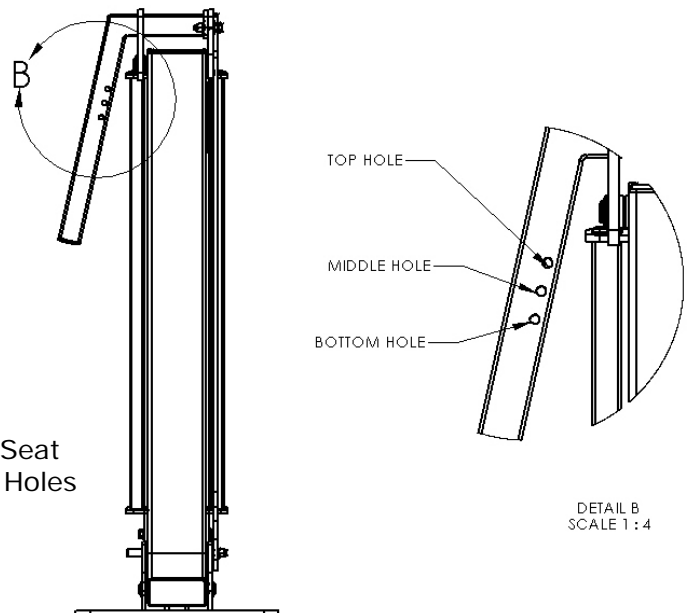
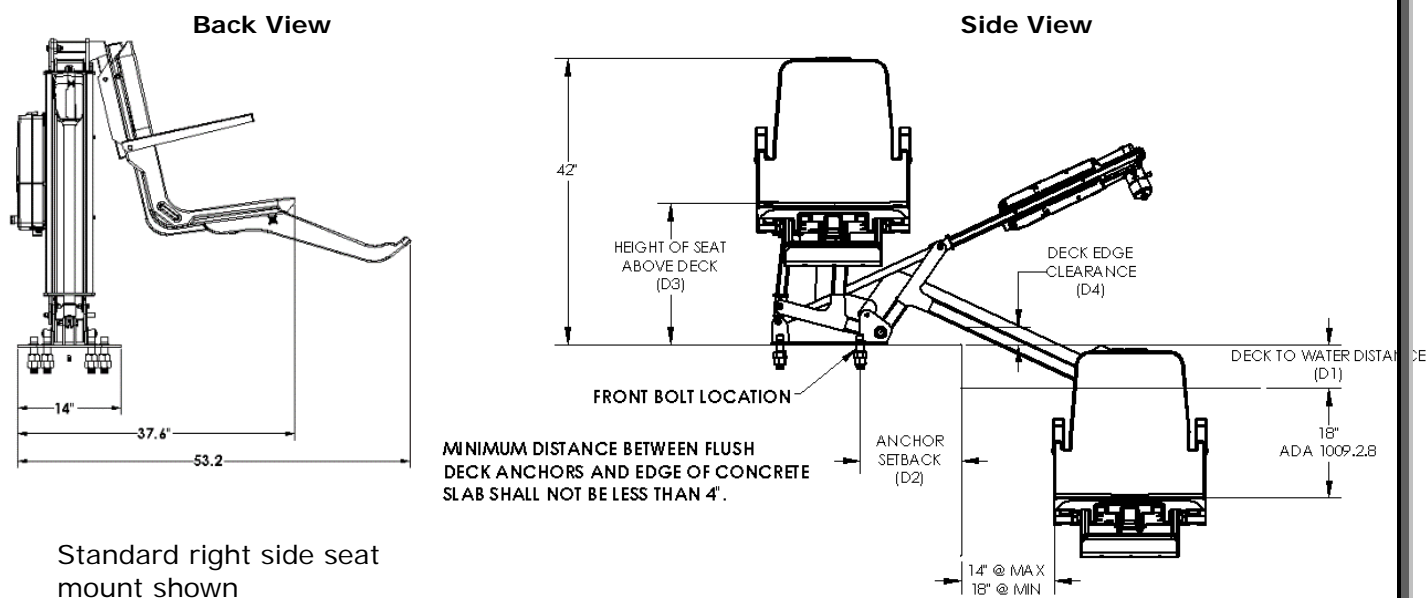

Figure 6. Seat Mounting Holes
Figure 10. Installation Layout
12. Attach seat assembly with bolt and thumbnut in appropriate hole. Refer to **Figure 10** and **Table 1** to determine the correct seat mounting hole to use. Also see **Figure 6**.
The optimal mounting distance for the deck front anchors is 12.5"/ 31.75 cm from the edge of the pool. The front anchors can be installed up to a maximum of 17"/43.18 cm from the edge of the pool, but the deck edge clearance decreases the farther the lift is installed from the pool edge. The setback distance from the pool edge to the front anchor locations varies depending upon pool geometry. The ML300 is designed to be used with simple pool edge designs with deck to water level differences of 0" to 8" maximum. Review **Figure 10** and **Table 1** to determine the correct seat mounting location and anchor installation setback for your pool.
3. Use **Figure 10** and **Table 1** to determine the proper location to install the lift, making certain that the front anchors are located the correct distance from the pool edge.
2. Use **Figure 10** and **Table 1** to determine the proper location to install the lift, making certain that the front anchors are located the correct distance from the pool edge.